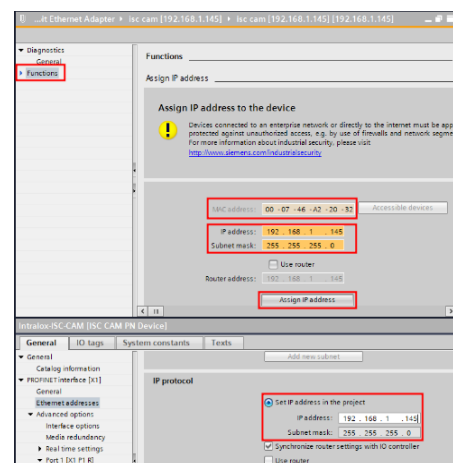

Figure 12: Setting IP Address for ISC CAM device
22. Choose “Functions” from the left column, Figure 12.
23. Verify the “MAC address” matches the connected device, Figure 12.
25. Change the IP Address to match the address of the project, Figure 12.
26. Provide a correct “Subnet mask” for the device, Figure 12.
27. Click “Assign IP address,” Figure 12.